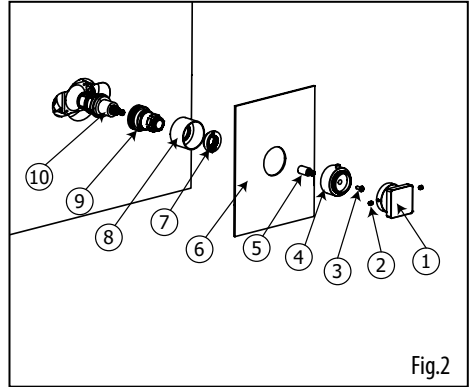

Fig.2
To service the thermo cartridge (10), remove the components (7 to 9) and pull the cartridge out (Fig.2).
Pour retirer la cartouche thermostatique (10), démonter les composantes (7 à 9) (Fig.2).*